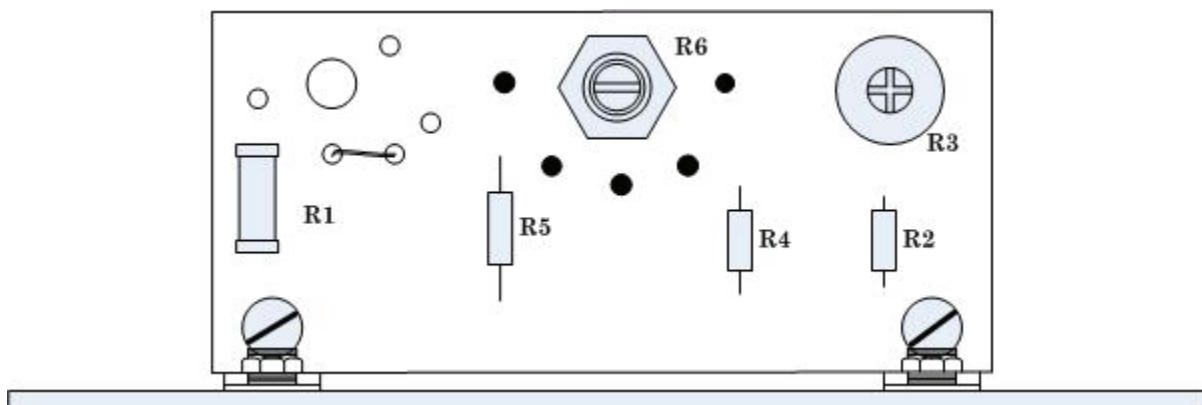

Figure 3. Shunt assembly printed circuit board.
- (3) Remove four pan-head screws from TI face. Remove TI face and circuitry from inner case.
- (4) Connect DC power supply to battery leads.
- (5) Energize DC power supply and adjust output to 3.0 volts.
- (6) Connect multimeter across R1 on shunt assembly printed circuit board shown in figure 3.
- (7) Adjust series calibration potentiometer R6 (fig. 3) to mid-position (R).
- (8) Push **PRESS TO TEST** pushbutton on TI. Adjust panel **ZERO** control until multimeter reads 500 to 525 volts (R).
- (9) Disconnect multimeter from TI. Be sure not to disturb **ZERO** control setting on panel.
- (10) Connect the **COMMON** terminal on the TI to the low terminal of resistance standard no. 1.
- (11) Connect the **FLOOR AND EQUIPMENT** terminal on the TI to the high terminal of resistance standard no. 1.
- (12) Set resistance standard no. 1 to 000,000.00 ohms.
- (13) Push **PRESS TO TEST** pushbutton on TI. Adjust R3 (fig. 3) to zero meter. Release **PRESS TO TEST** pushbutton (R).
- (14) Set resistance standard no. 1 to 250,000 ohms.
- (15) Push **PRESS TO TEST** pushbutton on TI. Adjust R6 (fig. 3) in a direction to double the error (higher or lower than 250,000 ohms). Release **PRESS TO TEST** pushbutton (R).
- (16) Repeat (12) through (15) above until no further adjustment is required.
- (17) Repeat 8 a above.
- (18) Turn off DC power supply. Remove all connections to TI. Place instrument and circuitry in inner case and assemble four pan-head screws.
(19) Connect batteries to battery leads. Place inner case in TI case. Assemble four flathead screws.